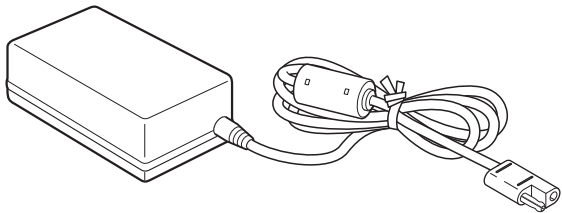

Figure 1-5. Power Supply Unit
The power supply unit (p/n 22-034101-01) charges the internal batteries when connected to a grounded outlet (Figure 1-5). This unit converts the alternating current (AC) normally supplied from an electrical outlet to a direct current (DC) used to charge the batteries and/or power the receiver.